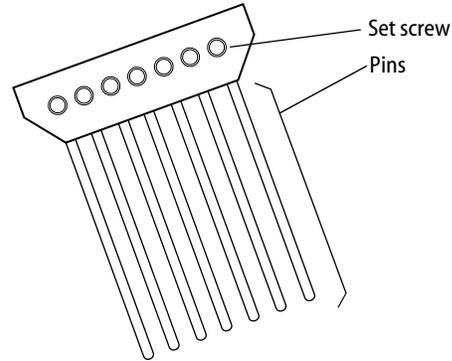

Figure 6— Decapping tool
- 5 Using the Decapping tool (see Figure 6), insert the pins into the holes in the bottom of the core to make sure that the decapping operation will be successful.
- For 5-pin cores remove two ejector pins by loosening two set screws at one end of the tool. See Figure 6.
- For 6-pin cores remove one ejector pin by loosening one set screw at one end of the tool. See Figure 6.